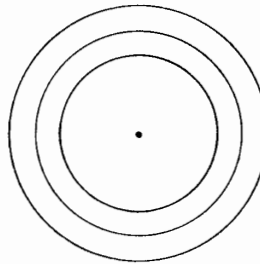

Fig. 59
61. *Concentric* circles are those which are described from the same center. Fig. 59.